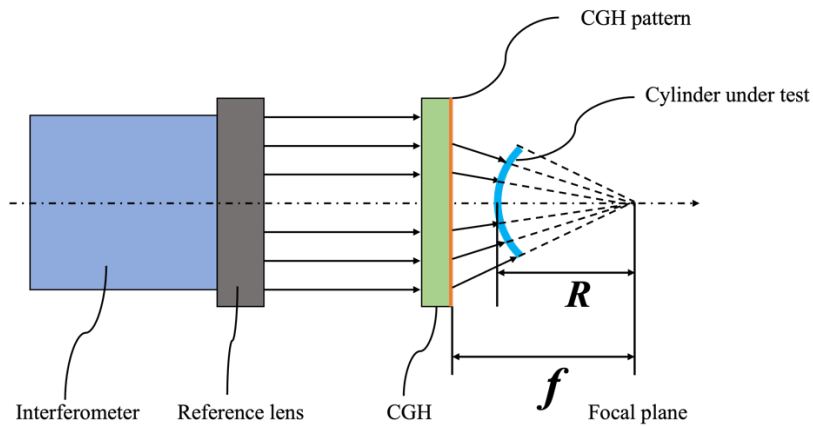

Figure 9: Diagram of optical path for testing convex cylinder lens
10.2 When the cylinder lens is convex, With the corresponding radius of R , If the focal length of cylinder CGH is f , then the optical path shown in Figure 9: